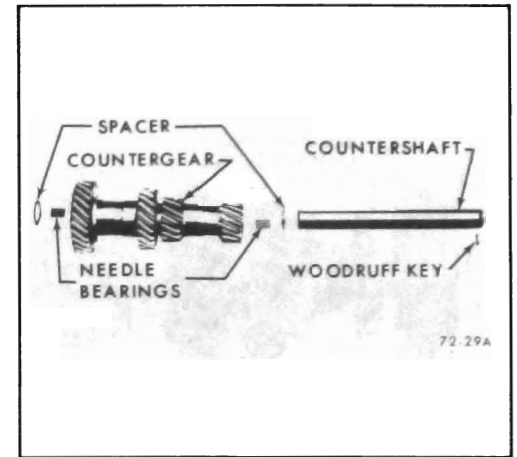

Figure 72-29 - Exploded
2. From each end of countershaft, remove spacer and 27 needle bearings. See Figure 72-29.
2. From each end of countergear, install 27 needle bearings and spacer. See Figure 72-29.